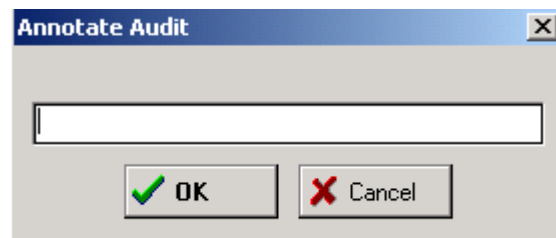

Fig.2
- 1) Click on the “okay” button. A “Annotate Audit” box will appear on your screen (See fig. 2). The information that you type in this box will be the “title” for this particular saved audit data file. (Typical titles are the machine model, location, and/or asset number).